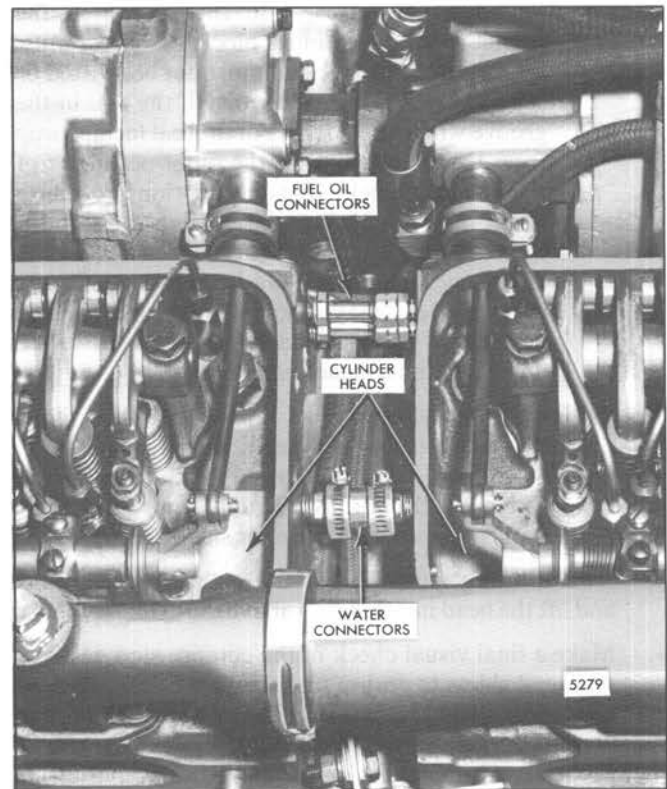

Fig. 14 – Fuel and Water Connections (12V and 16V Engines)
9. On 12V and 16V engines, install the fuel and water connectors between the cylinder heads. Dry seal connectors are used at the fuel connection between the cylinder heads (Fig. 14). Make sure the tapped holes in the water hole plugs in the ends of the cylinder heads are in alignment.